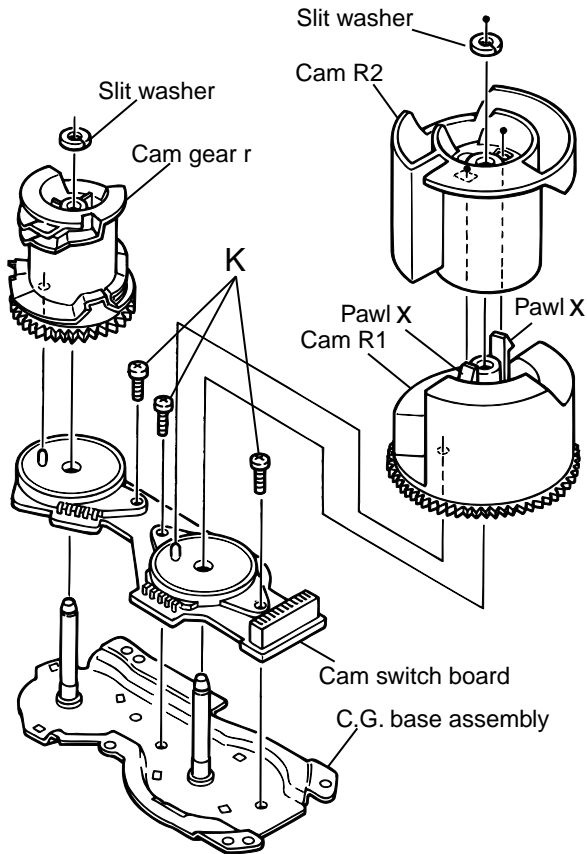

Fig.23
■ Removing the cams R1/R2 assembly and cam gear r (See Fig.23)
■ Removing the C.G. base assembly (See Fig.23 and 24)